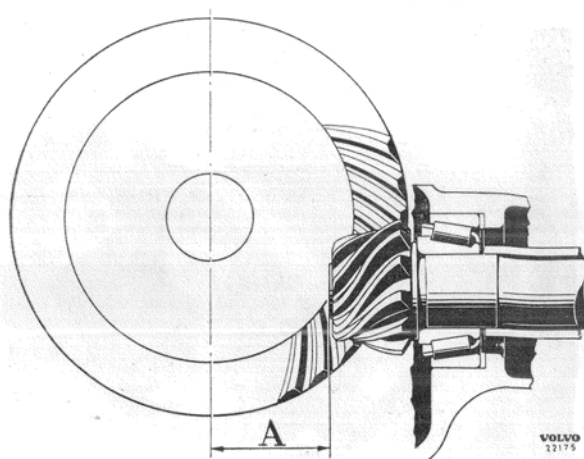

Fig. 35. Pinion position.
5. Check the bearing adjustment. The pinion should be relatively easy to turn 9—14 kgcm = 8—12 lb.in). There may be no looseness. Adjustment may be carried out by means of the shims (24) on the forward pinion bearing.
6. The pinion should have a certain nominal measurement (A, fig. 35) to the crown wheel centre line. Due to tolerances in